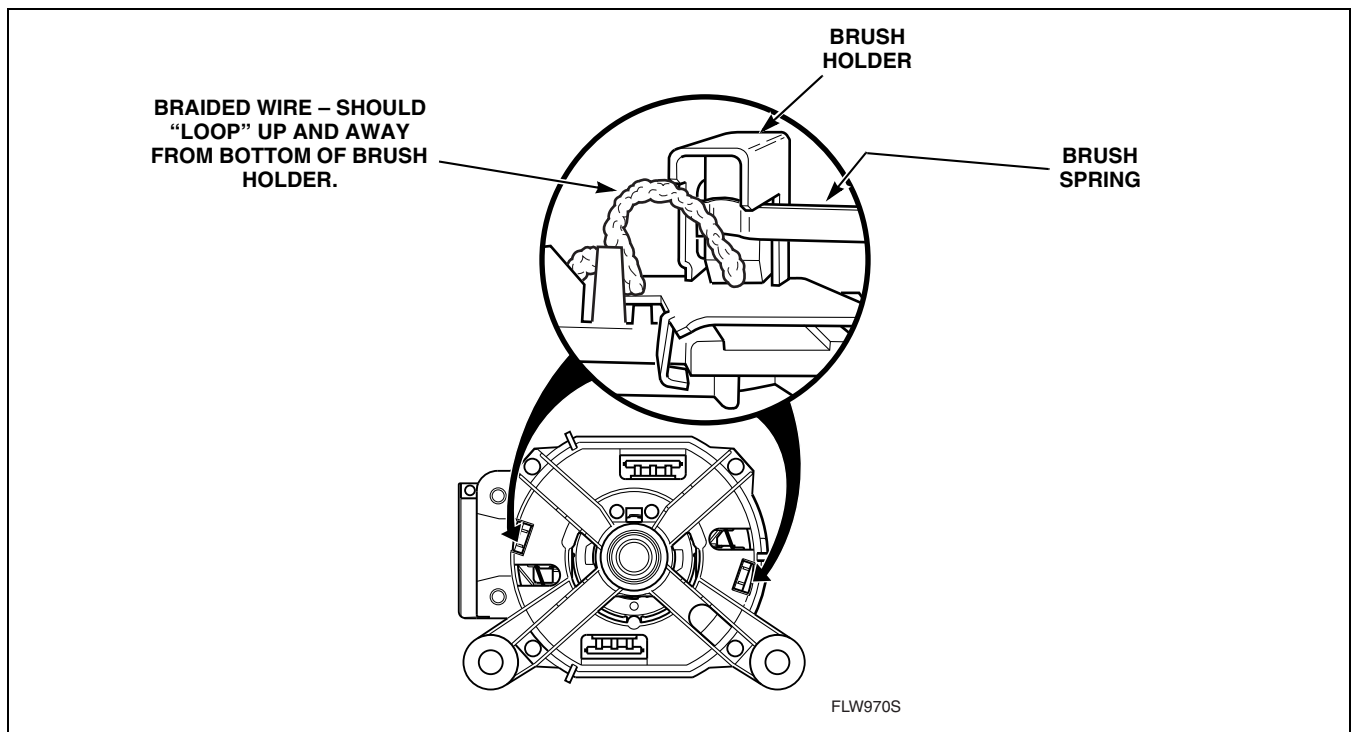

Figure 12
- d. After determining which brush assembly is binding, carefully use the tip of a small screwdriver to unsnag and reposition the braided wire. Refer to *Figure 12*. Make sure spring is making unobstructed contact with the end of the brush. Rotate armature by hand to assure that brushes are seated.